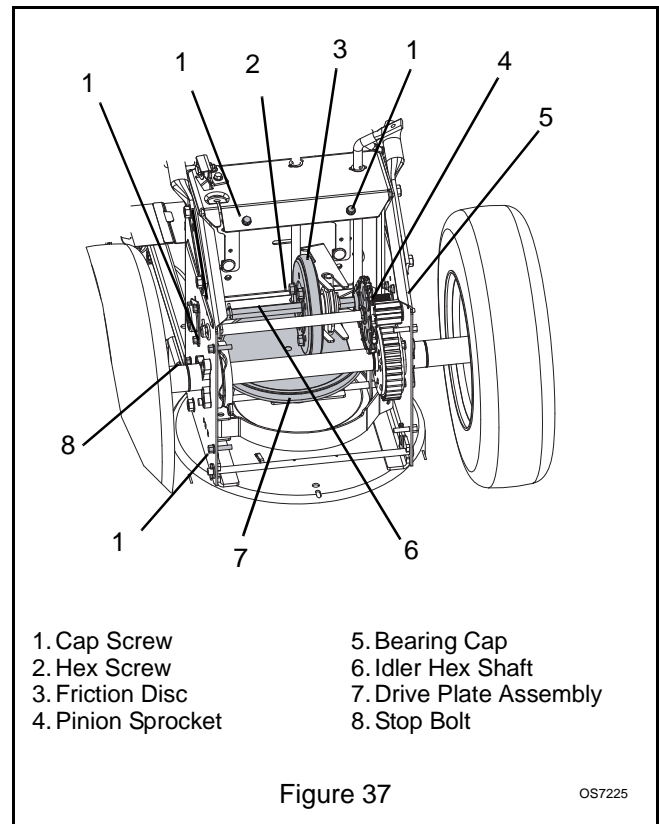

Figure 37
2. To gain belt clearance, back out the stop bolt from the frame until the drive plate assembly can swing past it (Figure 37).